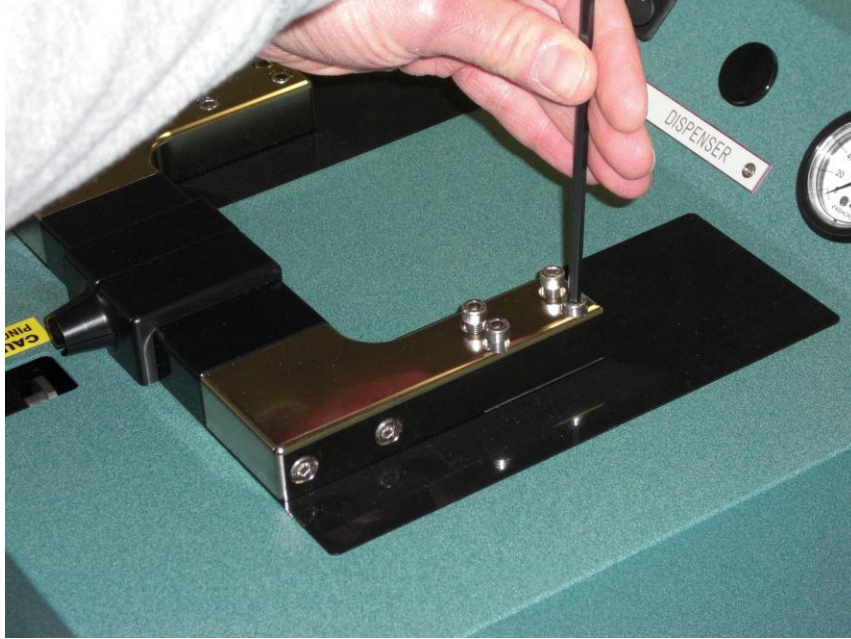

Figure 10: Removing Jaw Mounting Blocks
- Remove 8x 5mm screws to remove jaw mounting blocks (Figure 10)